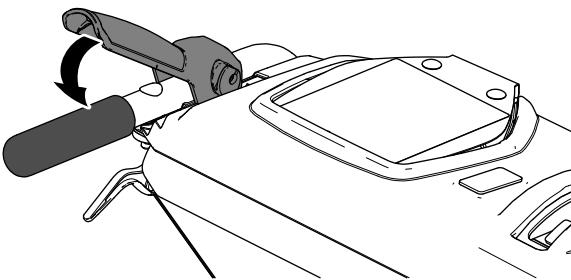

Figure 14
- Slowly squeeze the traction-drive lever to the left handle (Figure 14).